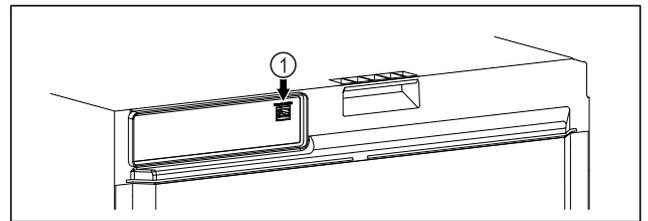

Fig. 110
- SmartModule Fig. 110 (1) has been inserted.